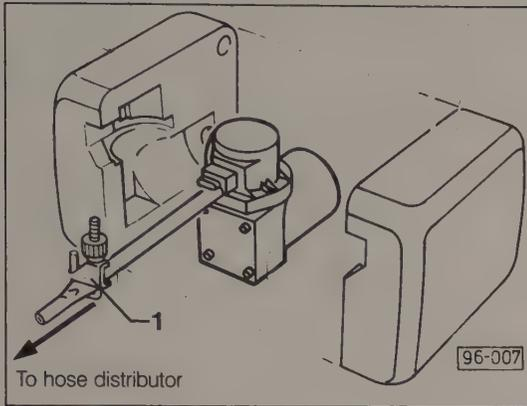

Fig. 5-8. Bi-pressure pump being tested with hose clamp at 1.
- Clamp the hose as shown in Fig. 5-8. Activate the pump using the door key. If the pump runs longer than 5 seconds, either the hose from the pump is leaking, or the pump is faulty. If the pump shuts off within 5 seconds, remove the clamp and continue testing.